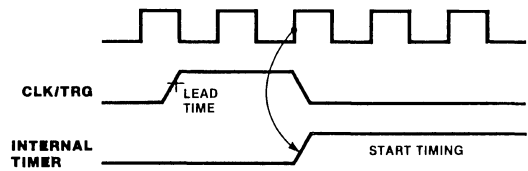

Figure 11. Timer Mode Timing
**Timer Operation.** In the timer mode, a CLK/TRG pulse input starts the timer (Figure 11) on the second succeeding rising edge of CLK. The trigger pulse is asynchronous, and it must have a minimum width. A minimum lead time (210 ns) between the active edge of the CLK/TRG and the next rising edge of CLK to enable the prescaler on the following clock edge. If the CLK/TRG edge occurs closer than this, the initiation of the timer function is delayed one clock cycle. This corresponds to the start-up timing discussed in the programming section. The timer can also be started automatically if so programmed by the channel control word.